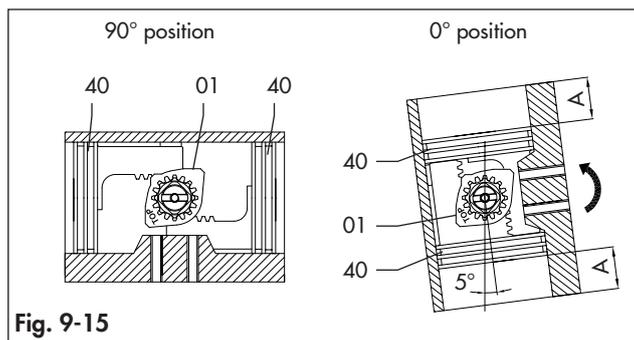

Fig. 9-15
- Lubricate and place onto the pistons (40) the o-rings (16), piston backs (05) and the head bearings (15).
- With pistons completely closed (0° position) as per Fig. 9-15, referring to the axis of the body, the rotation obtained must be:
- With pistons completely closed (0° position) as per Fig. 9-15 the dimension "A" must be the same on both sides
- With the actuator in close position (0° position) referring to Fig. 9-15 for pistons position, screw or unscrew the right stop screw (02) 1 turn at a time until the desired stop position is achieved. In case of spring return actuator, a pneumatic supply may be necessary.